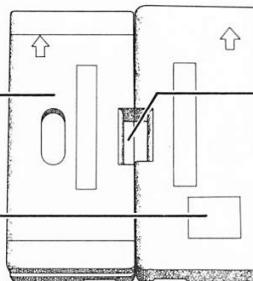

Fig. 2
Utilize the support frame (expanded styrol) for the cabinet when the SP-10MK3 is to be mounted (**Refer to Fig. 2.**)
- ① Arrange the supporting frame as shown in the figure. (Fig. 2)